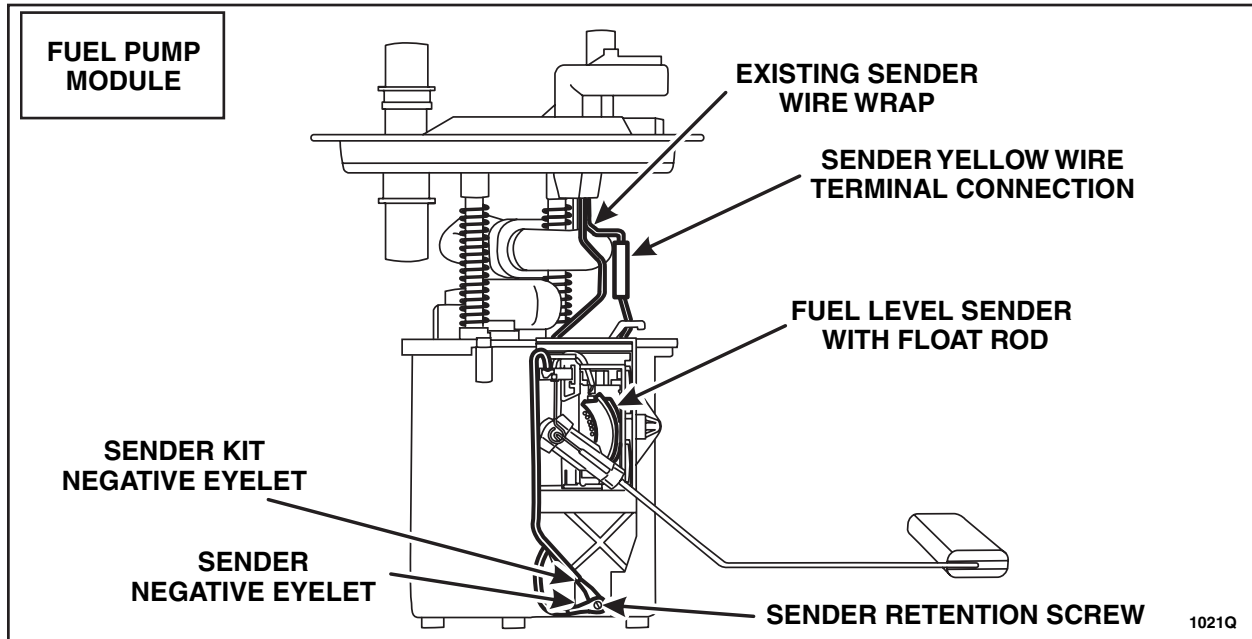

FIGURE 8
NOTE: Review the fuel level sender wire routing prior to disassembly. This fuel level sender replacement service procedure applies to the fuel pump and fuel level sensor modules. See Figures 8 and 9.
25. Remove one of the fuel level sender retention screws. See Figures 8 and 9.
Install the *new* fuel level sender to the fuel pump module or the fuel level sensor module and install the fuel level sender retention screw. See Figure 8 and 9.